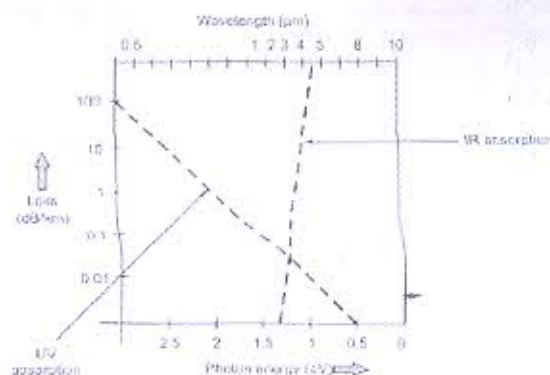

Fig. 2.2.3 Attenuation spectra for intrinsic loss
- Attenuation spectra for the intrinsic loss mechanism in pure Ge is shown in Fig. 2.2.3.